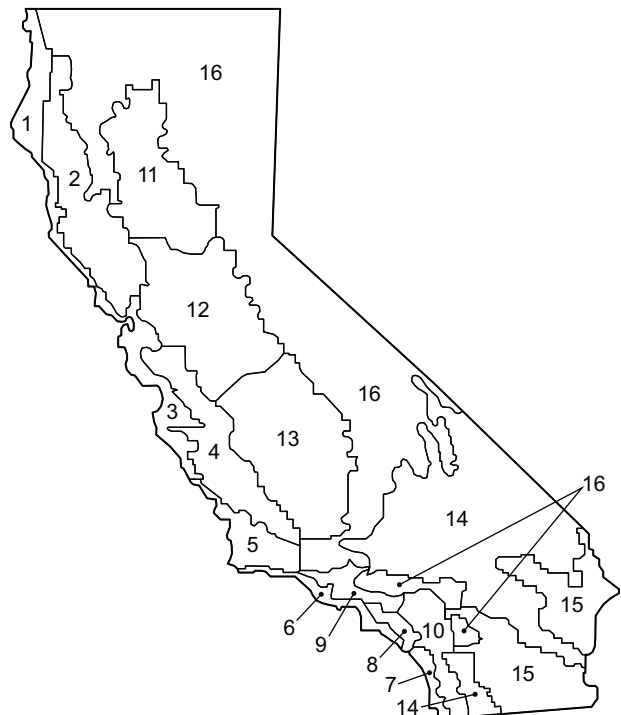

Fig. 79 – California Title 24 Zones
- b. See Fig. 79 for map of California Title 24 zones.